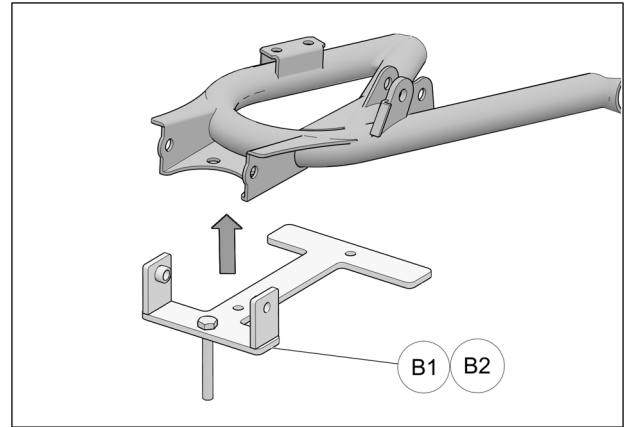

Fig. 7
- Position rear anchor bracket (**B1-B2**) under lower suspension arm. See Fig. 7